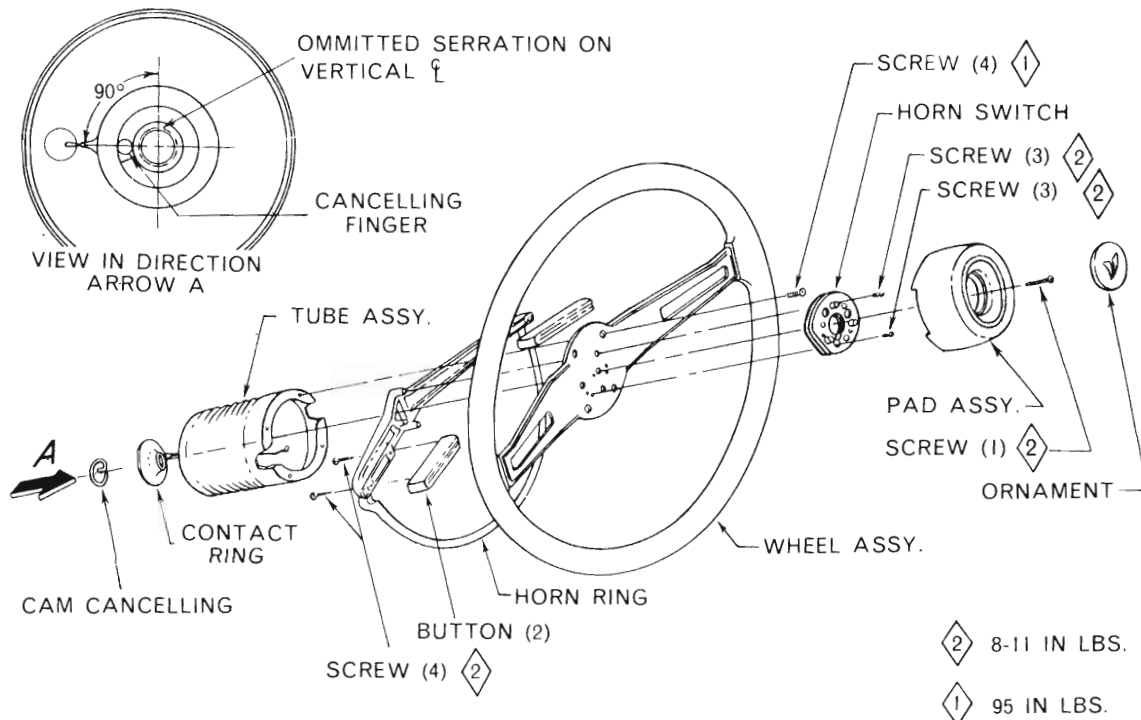

Fig. 9 - Impact absorbing steering wheel assembly
- (1) Disconnect negative (ground) cable from battery.
- (2) Disconnect shift linkage rod from lever at lower end of steering column.
- (3) Drive roll pin out of lower end of steering shaft to worm shaft coupling.
- (4) Disconnect turn signal, gearshift indicator light, horn and ignition switch wires.
- (5) Remove the two centre pad assembly retaining screws and lift off pad to expose the horn switch. (Refer Fig. 9).
- (6) Disconnect the horn wire from switch and remove the two switch retaining screws, if necessary, to remove the switch and horn ring.
- (7) Remove the four steering wheel retaining screws, using an Allen wrench, and lift off the steering wheel and horn ring assembly.
- (8) Remove the steering column collapsible tube assembly retaining nut and washer from the steering shaft.
(9) Remove the steering column collapsible tube from the column, using Puller Tool E19C10.
(10) Remove floor plate to floor pan attaching screws.
(11) Remove steering column to instrument panel retaining clamp and screws.
(1) Guide the lower end of the column through the floor opening.
(2) Position the clamp on the coupling and with the master splines on the worm shaft and coupling aligned, engage the column coupling with the steering gear wormshaft.
(3) Loosely fasten the steering column jacket to the instrument panel bracket with the clamp and the two attaching screws. Be sure the tab on the clamp is entered in the locating slot in the column jacket.
(4) With the steering shaft coupling clamp in position on the coupling assembly, install a new roll pin so that it engages the groove in the wormshaft. Install gearshift control rod.
(5) With the coupling centred, tighten the column jacket to instrument panel clamp bolts to 25 lbs./ft. torque. Align and attach the floor plate to the floor pan. Install the turn signal lever.
(6) With the master splines in the collapsible steering tube assembly and steering shaft aligned, place the collapsible steering tube on the shaft. Install the retaining nut and washer, Tighten to 24 lbs./ft. torque.
(7) Install the horn ring and switch to wheel, where removed, tightening screws to 8-11 lbs./in. torque. (Refer Fig. 9.)
(8) Attach the steering wheel to the collapsible steering tube using four special screws and torque to 95 lbs./in.
(9) Reconnect the horn wire to switch.
(10) Install the centre pad, tightening the screw to 8-11 lbs./in. torque.
(11) Install the ornament to the wheel centre pad.
(12) Connect the turn signal, gearshift indicator light and horn wires. Connect the battery ground cable, test the operation of the lights and horns.